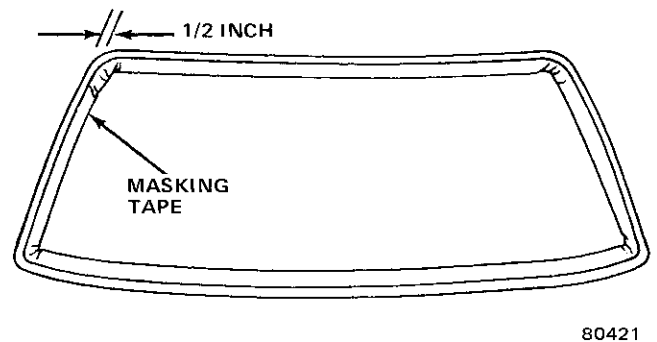

Fig. 3N-5 Installation of Windshield Glass Masking Tape
(1) Apply one-inch wide masking tape to outside of glass 1/2-inch inboard from edge of glass; apply tape to top, sides and bottom as shown in figure 3N-5.